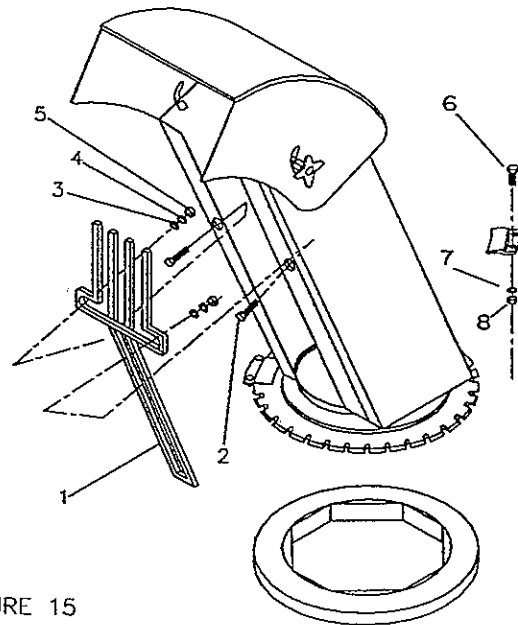
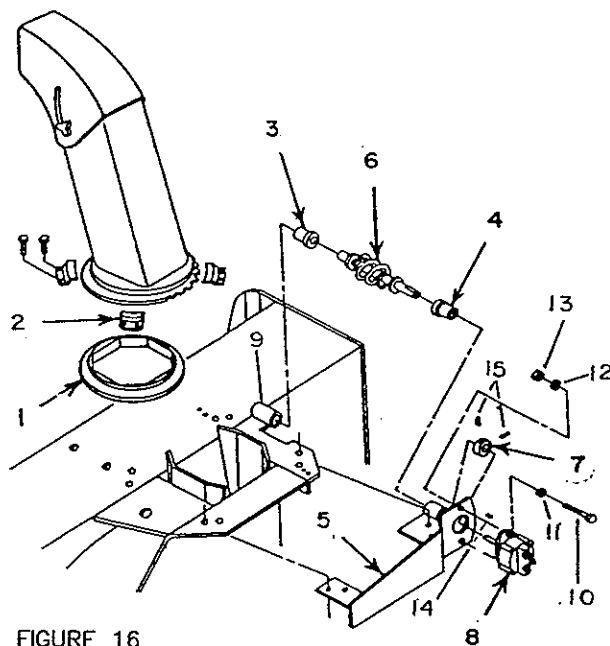

FIGURE 15
FIGURE 16
- a) Install the hand guard (fig.15, item 1) on the chute with the top portion inside the chute and the bottom section outside chute base ring. Place two 1/4" x 3/4" bolts (fig.15 item 2) with the head on the outside of the chute, through the chute then through hand guard and secure each bolt with a flatwasher, lockwasher and nut (fig.15, items 3-4-5). Torque to 9-11 lbs. ft.
- b) Place the plastic anti-friction insert (fig.16, item 1) over the chute base. Apply grease on top of this insert where it will contact the chute base.
- c) Place the chute on the plastic insert and secure with four retaining plates (fig.16, item 2) using eight 1/4" x 3/4" bolts, lockwashers and nuts (fig.15, items 6-7-8). Do not tighten.
- d) Insert the 1 5/16" long plastic bushing (fig.16, item 3) in the tube weldment (fig.15, item 9).
- e) Insert the 1 11/16" long bushing (fig.16, item 4) in the rotation bracket (fig.16, item 5).
- f) Install longest tube end of rotation worm (fig.16, item 6) in the bushing installed in the rotation bracket.
- g) Insert locking collar (fig.16, item 7) over rotation worm.
- i) Install hydraulic motor (fig.16, item 8) on rotation bracket and inside rotation worm. Secure the motor on the rotation bracket using two 3/8" x 1 1/4" bolts, flatwashers (on motor side), lockwashers and nuts (fig.16, items 10-11-12-13). Torque to 35-42 lbs/ft.
- j) Install rotation bracket assembly on under side of chute base lip and bushing (fig.16, item 3) in tube weldment (fig.16, item 9). Secure assembly with the retaining plate bolts.
- k) Securely tighten the two set screws in the locking collar (one over the key) (fig.16, item 15).